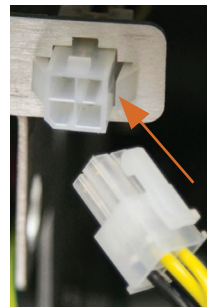

Figure 2-5 White connection with tab facing up
5. Then, connect the white connection on the right side. Ensure the tab on top of the connector is facing up before pushing it into the mating connector (Figure 2-5).